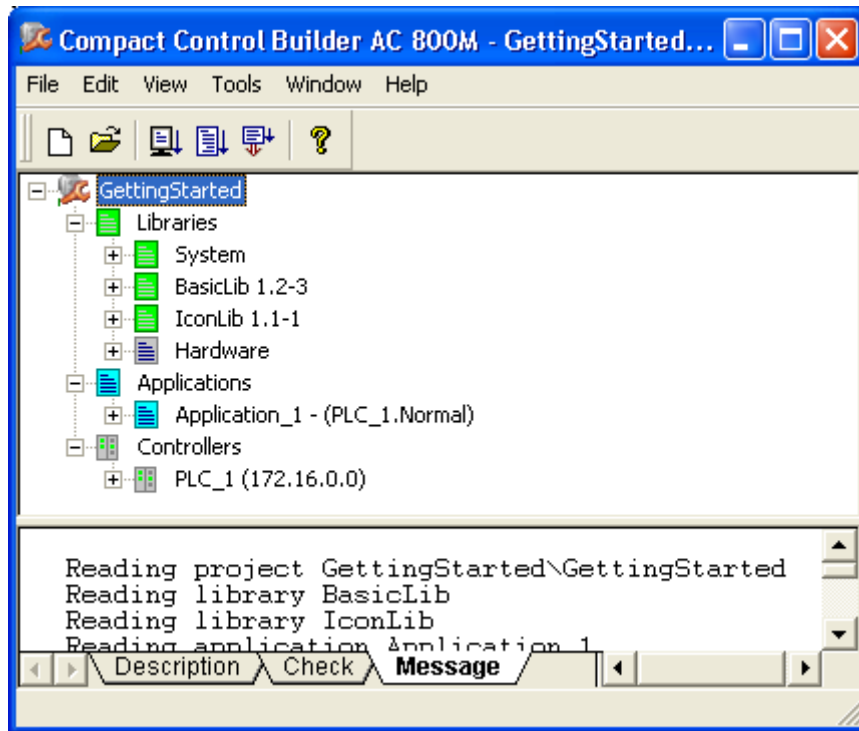

Figure 16. MyDoors project opened in Project Explorer
3. Click **OK**. Project Explorer creates and opens MyDoors project, see Figure 16.